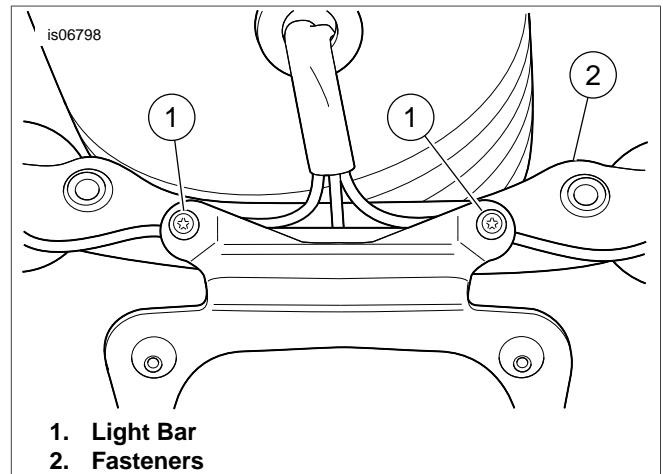

Figure 1. Back Plate
3. See Figure 1. Secure back plate from kit to light bar (2) with fasteners (1) retained from previous step. Tighten fasteners to 60-80 **in-lbs** (6.8-9.0 Nm).